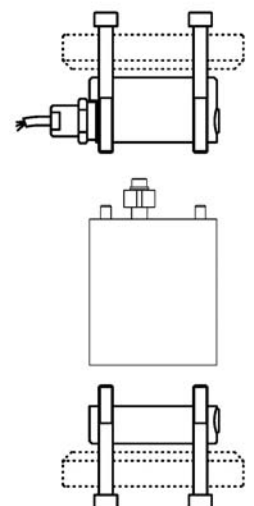

Fig.3
- mount end covers. If the construction is with flange cover, mount these too (Fig.3)